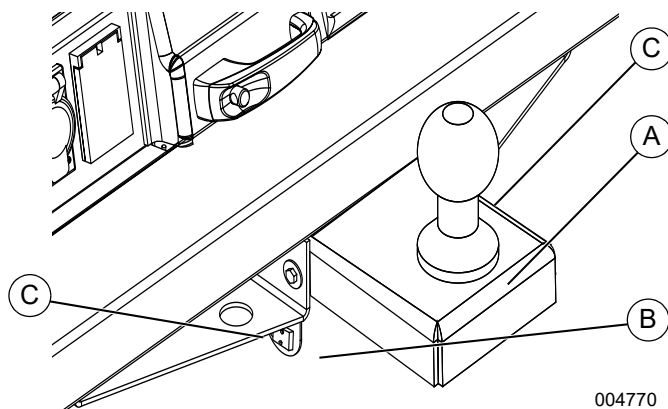

Figure 3-7. Tandem Tow
See Figure 3-7. The tandem tow hitch option (A) allows the operator to tow a second MLT6 Light Tower in series behind the unit equipped with the hitch.